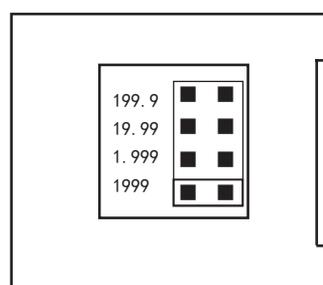

Figure 2
2. Decimal point setting (Figure 2)